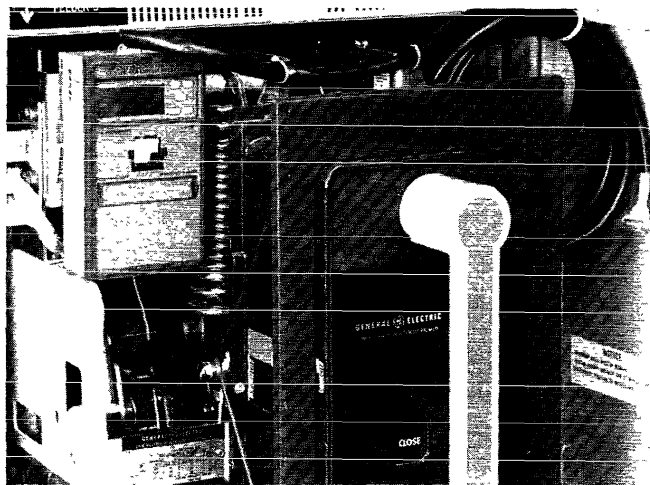

Figure 4. Routing the Remote Display Harness
- Route the Remote Display Harness across the top front of the breaker frame, using the cable ties provided to secure the Harness to the breaker. Avoid placing the harness near any of the charging springs or mechanism parts. Route the Harness so that any extra cable is near the hinge on the door. A suggested cable route is shown in Figure 4.